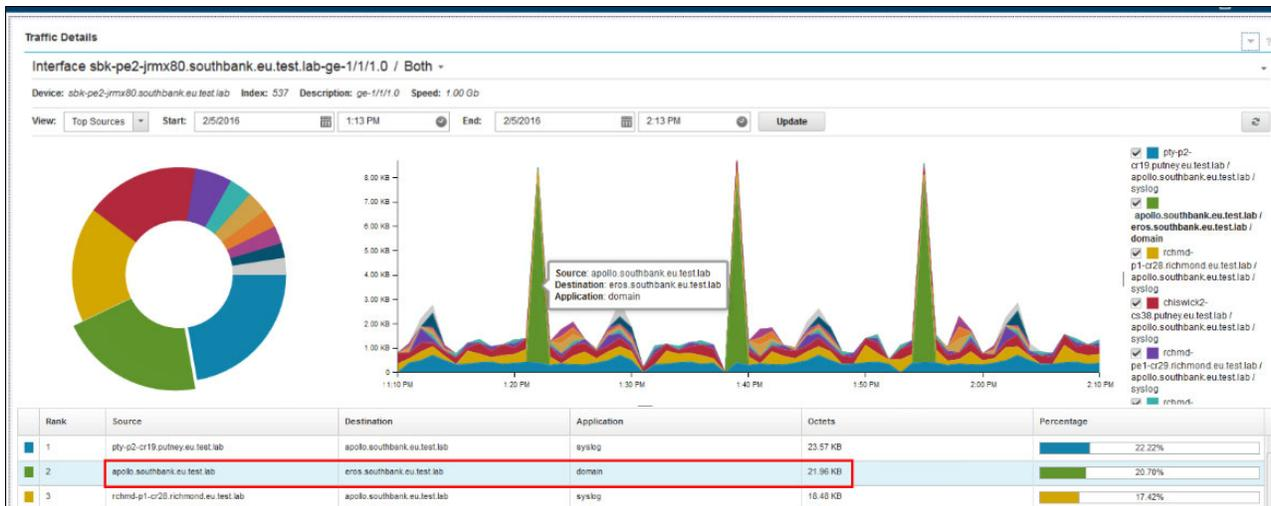

Figure 2-35 No DNS Zone traffic between Primary and Secondary DNS servers
10. By using Netcool Performance Insight (NPI) flow, Brock confirms that there is no DNS zone traffic to keep IP addresses synchronized between the Primary and Secondary DNS servers now. Instead, he sees traffic from the Secondary to Primary DNS but not from Primary to Secondary, as shown in Figure 2-35.